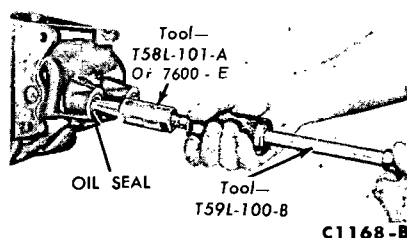

FIG. 8—Removing Cam and Shaft Oil Seals
2. If required, the cam and shaft oil seals in the case may be removed with the tools shown in Fig. 8.